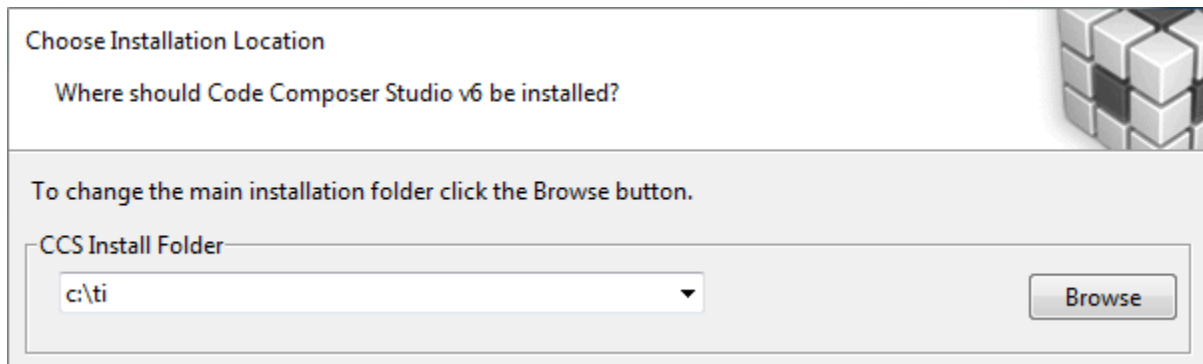

Figure 17, TI Installation Location
- e. Select CCS Installation/Home folder (default is c:\ti, Figure 17). Press Next.